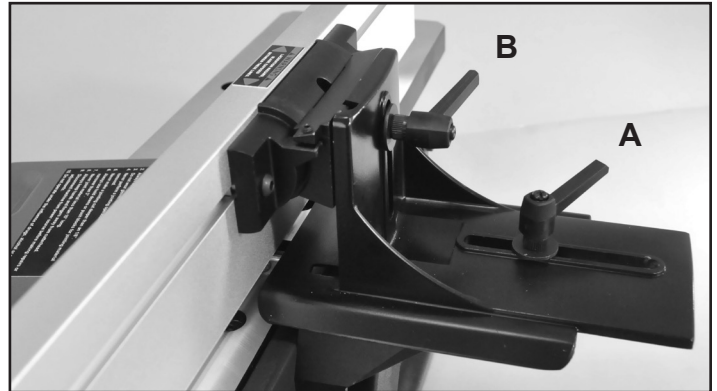

FIG. 18
1. To move the fence across the table, loosen the lock lever (A), slide the fence to the desired position on the table and then retighten the lock lever. FIG. 18.
2. To tilt the fence, loosen the lock lever (B), and tilt the fence to the desired angle. Then retighten the lock lever. FIG. 18.